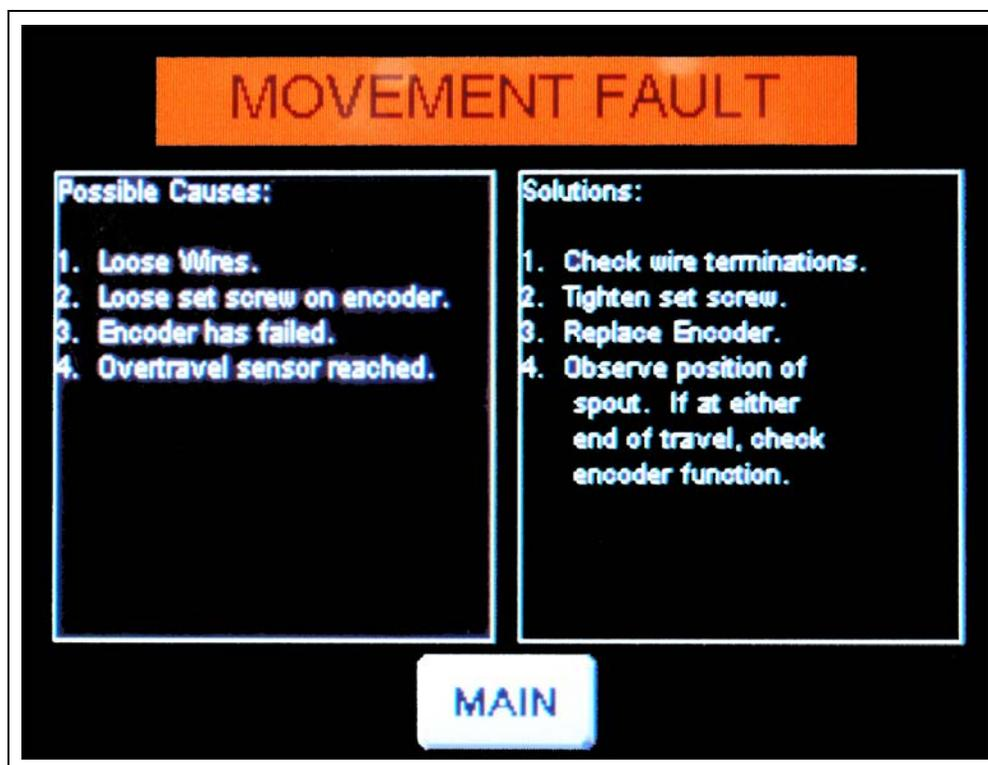

Figure 4G Movement Fault Screen
**Movement Fault:** Displays the “Movement Fault” screen which offers possible causes and solutions to faults caused by distributor movement. (See Figure 4G on Page 34.)